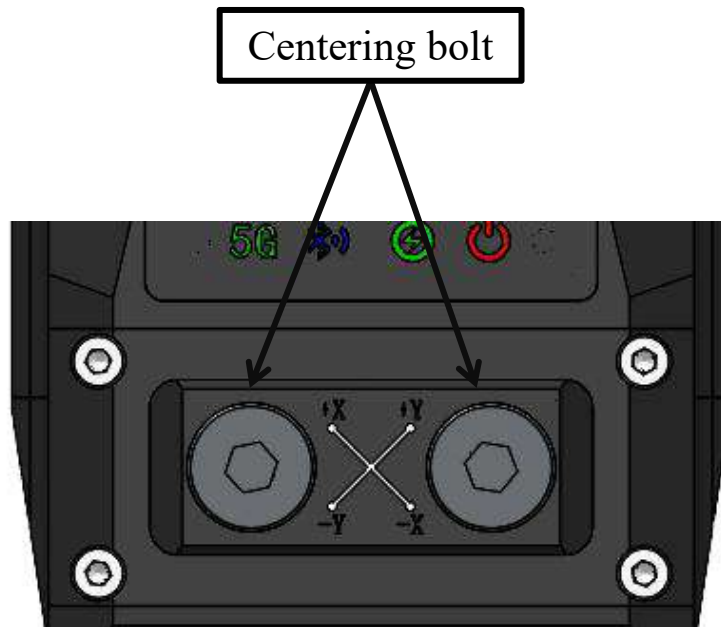

Figure 4.1
- ① The laser beam must be kept in the center of the nozzle to achieve good joint-cutting effect. When it deviates from the center of the nozzle, make adjustment through the beam centering module, as shown in Figure 4.1 below.